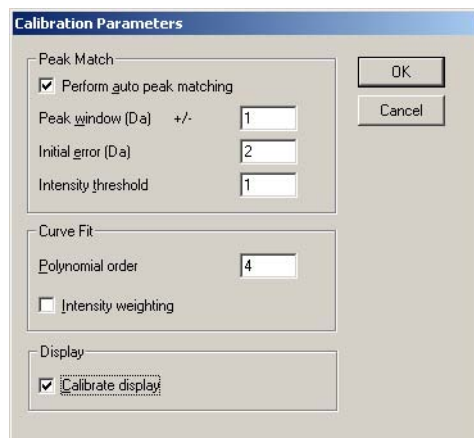

Figure 3-7 Calibration Parameters Dialog Box
**Note:** Calibration Parameters will open the Calibration Parameters dialog (Figure 3-7).